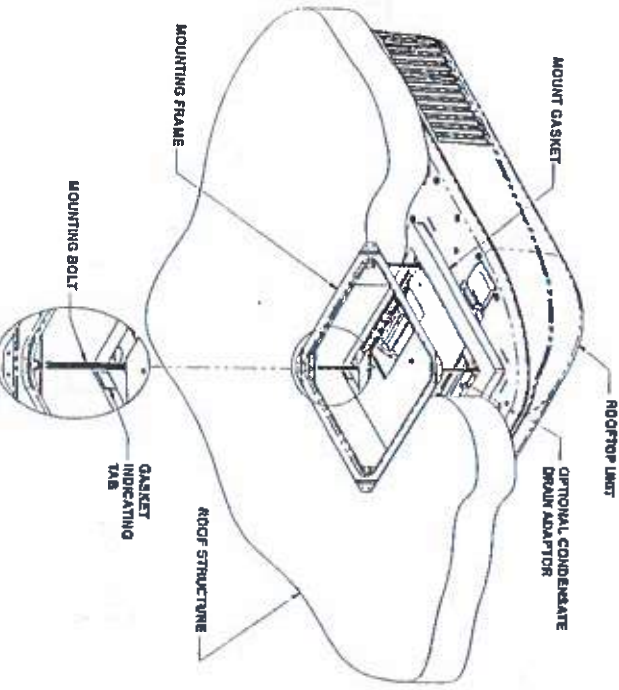

FIGURE 4
D. After the mounting hole area is properly prepared, remove the caisson and slapping pads from the roof top Heat Pump. Carefully lift the unit to the top of the vehicle. Do not use the outer plastic shroud for lifting. Place the roof top Heat Pump over the prepared mounting hole. The sloped end (nose) of the shroud must face towards the front of the vehicle. Pull the electrical conduit down from the Heat Pump through the mounting opening and let hang. Securing the heat pump to the roof - A mounting frame is supplied with the ceiling assembly. Follow the steps below to secure the Heat Pump to the roof. Refer to Figure 4.
- Proper tension has been achieved for each bolt when any portion of each gasket indicating tab has been pulled down even with the roof. See Figure 4. The upper unit has now been properly installed with optimum gasket compression.
4. If the heat pump is equipped with an optional evaporator condensate pump, a 1/2" I.D. hose must be provided that runs from the 14" square opening through the vehicle ceiling and down the side wall to allow water to drain under the vehicle. The hose must not be allowed to kink shut while making a bend. Connect the top end of the drain hose to the barbed fitting shown in Figure 4.